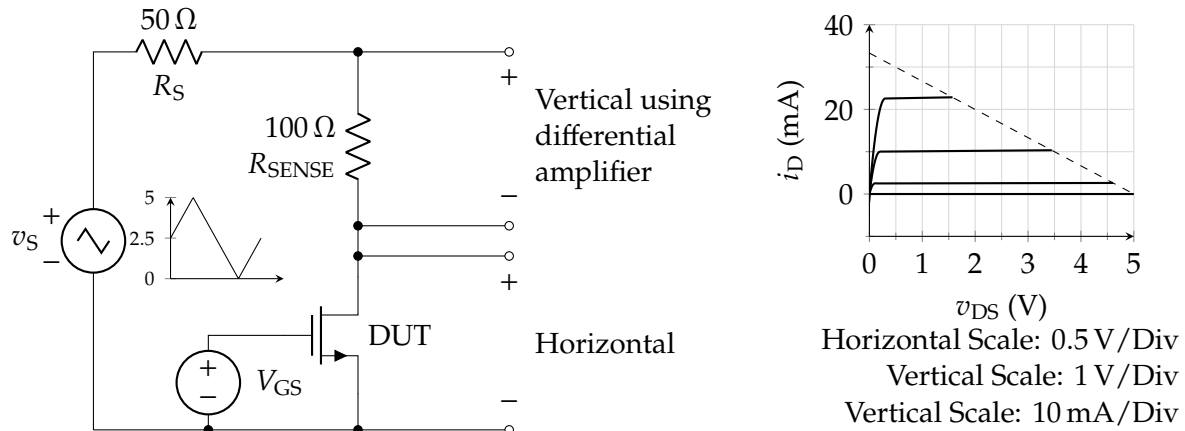

Figure 2.2: A test set to obtain typical output characteristics of a MOSFET.
In order to obtain the complete output characteristics of a MOSFET, it will be helpful to use a typical set circuit as shown in figure 2.2. The test circuit of figure 2.2 consists of two loops:
Gate loop. v_{GS} adjusts the gate voltage. To obtain the solid characteristic curve shown in figure 2.2, the gate voltage is set to a desired value and V_{DD} is automatically swept from 0 V to a peak voltage of 5 V. The dashed curves represent characteristics obtained using other, appropriately spaced values of v_{GS} .
1. *Select* R_{SENSE} for the test set in figure 2.2 to limit the worst case output current to 30 mA. The in lab function generator has a 50 ohm output impedance. The Analog Discovery 2 has a less than 1 ohm output impedance.
2. *Construct* the test set from figure 2.2 using the R_{SENSE} value calculated in step 1. Note that the diff amp circuit is built into the AD2. A prebuilt diffamp circuit is provided in lab. You will use the prebuilt diff amp circuit in lab or the differential inputs when using the AD2 device to measure the voltage across R_{SENSE} .